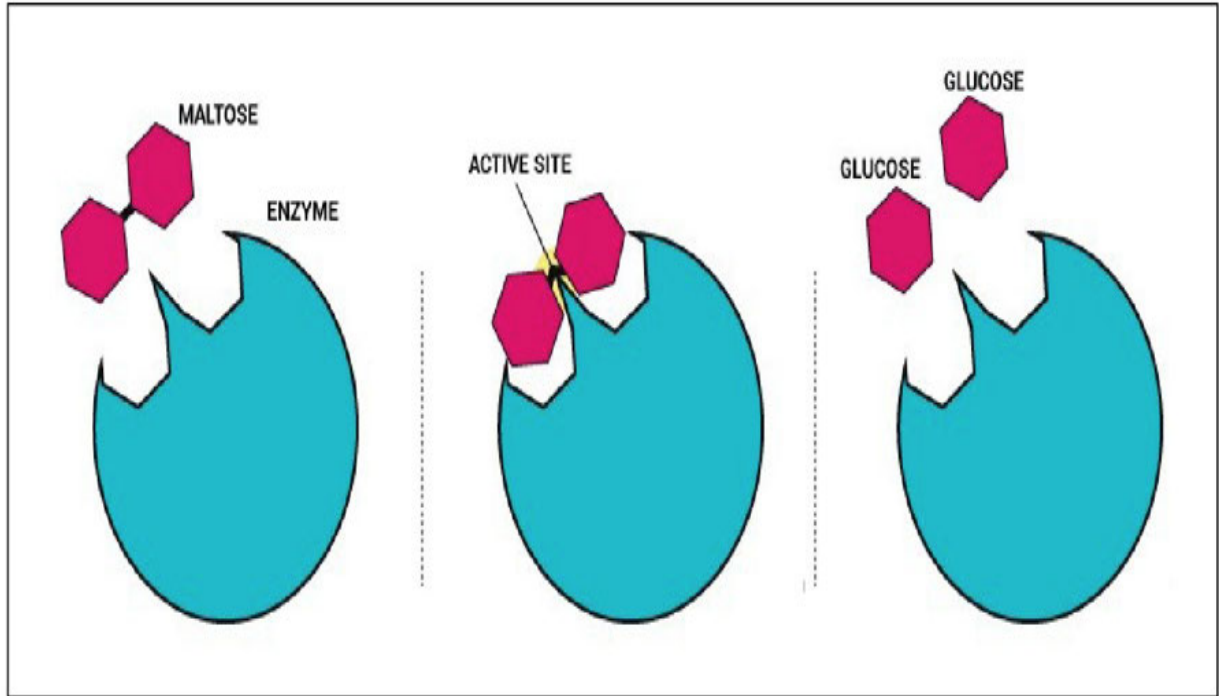

Figure 25 – Enzyme lock and key model
An enzyme hastens a chemical process or reaction. An enzyme is not destroyed or altered during the chemical process. In an earlier description, I used the analogy of Wiley Coyote using a stick lever to help him push a rock over a cliff edge in a quicker, easier manner. Another way of thinking of an enzyme is as a piece in a jig-saw puzzle. It takes a certain piece (enzyme) to match up with another piece (substrate) of the puzzle. In the context of cereal grain being used as a raw material, the endosperm cells walls are a substrate to which an enzyme binds. The 1-4 linkage sites or the 1-6 linkage sites on a starch molecule are another example of a substrate. A two-molecule glucose structure or a three molecule glucose structure are further examples of substrates that an enzyme will bind to. In Figure 25, (13) a molecule of maltose attaches to the binding site on an enzyme molecule, just like two pieces of a jig-saw puzzle coming together. The energy of the enzyme severs the maltose into two bits which then leave the binding site. The enzyme is then free and available to visit with other maltose molecules. This substrate-binding site model was first conceived in 1894 by scientist Emil Fischer who termed it the lock-and-key model. The process of breaking a substrate is complex. In the previous chapter it was shown that a protein assembly contains a functional “R” group. Scientists have determined that proteolytic enzymes are proteins containing histidine, serine, or aspartic acid “R” group amino structures. The mechanism through which the enzyme breaks a substrate entails these amino acids facilitating increased flow of protons away from the active binding site. This flow of electric charge and reduction of proton numbers encourages the substrate bonds to break. (14)